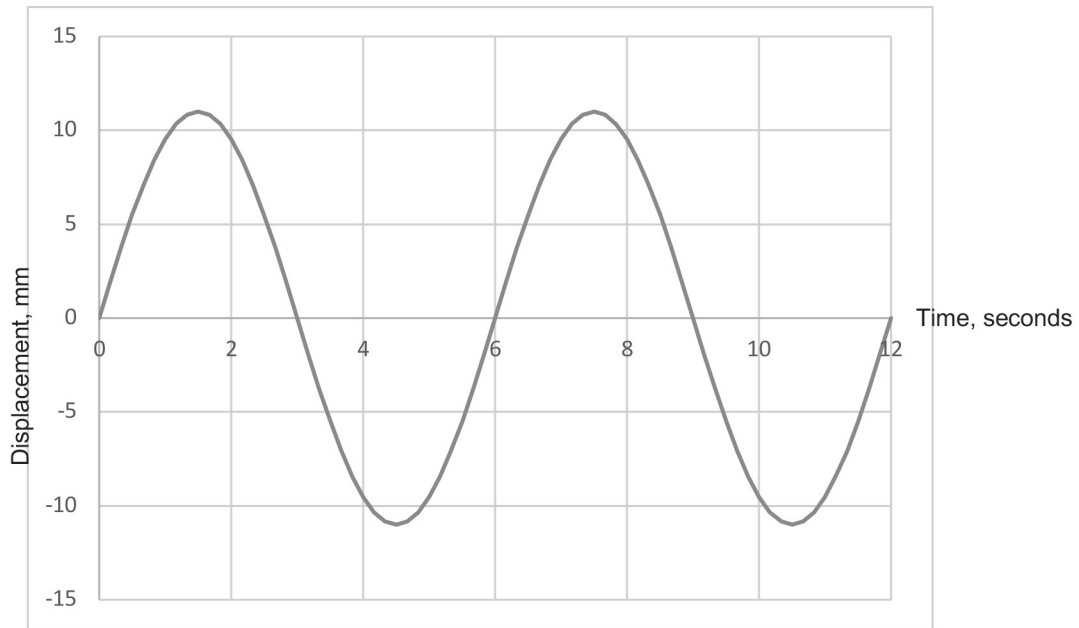

Figure 2
- 11 a) Figure 2 shows a plot of the relative position of a mechanical linkage with time.